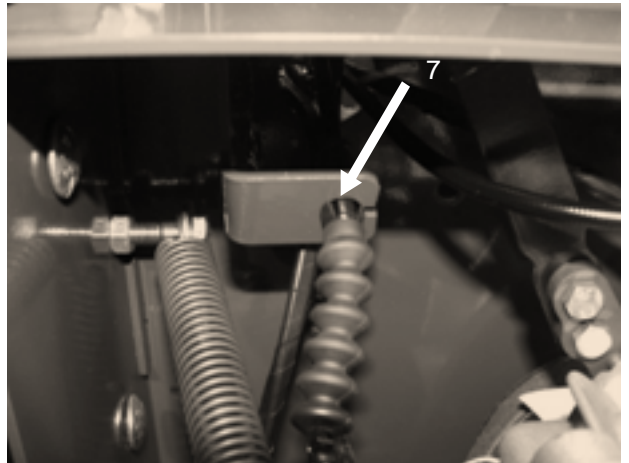

Figure 46
7. With a pair of pliers, collapse both tabs and carefully remove cable **Figure 46.**